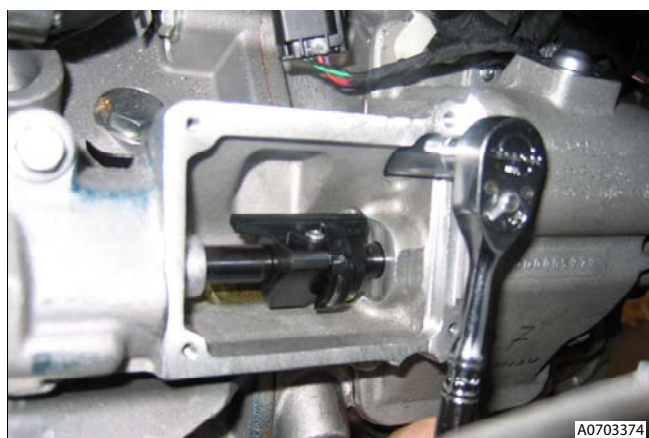

Figure 1
4. Remove shifter unit fixings (bolts x6, nut x1), release from dowels (x2) and tie shifter aside (see Figure 1).